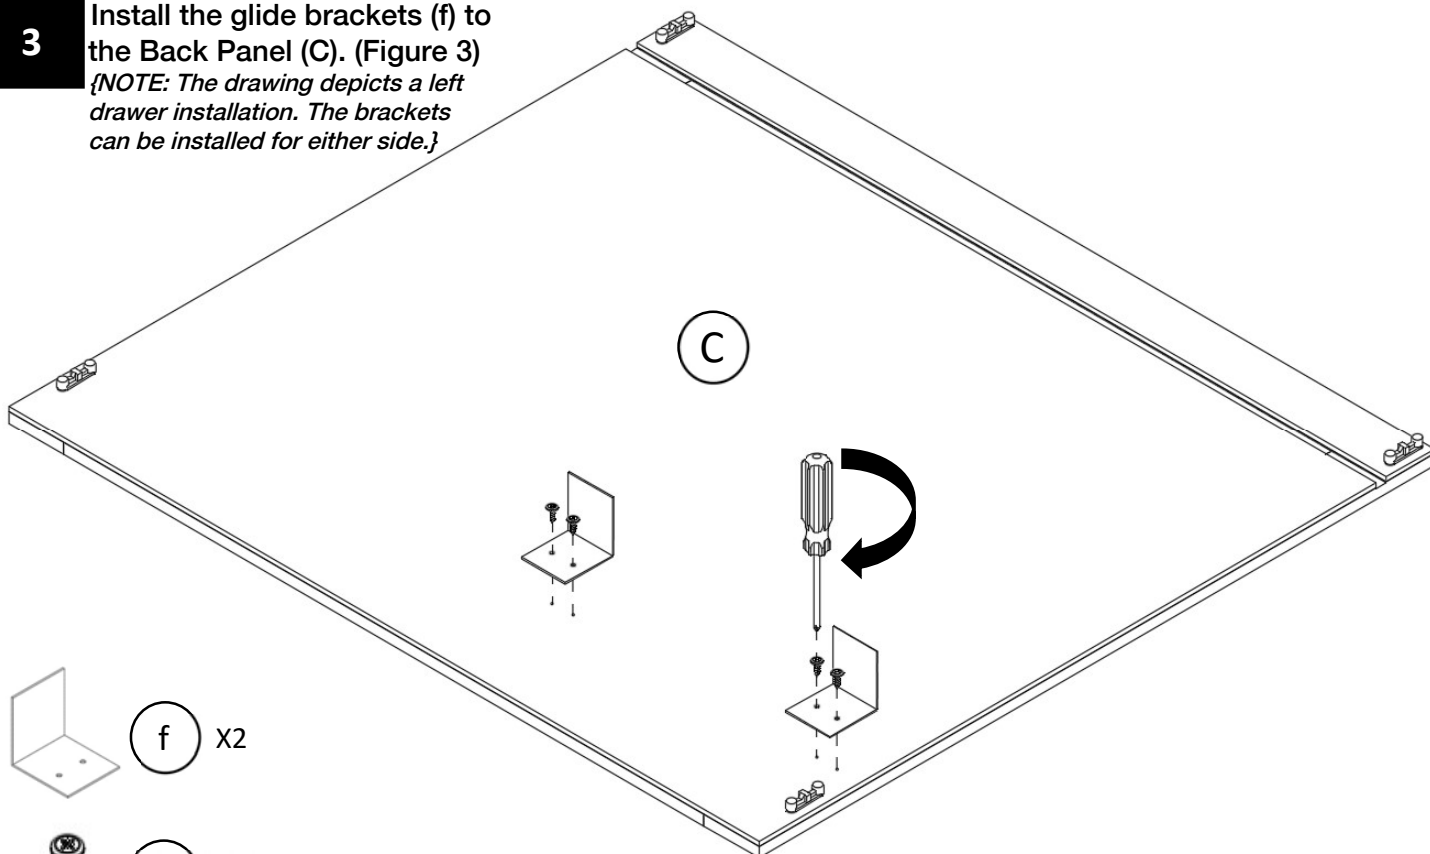

Figure 3
Install the glide brackets (f) to the Back Panel (C). (Figure 3)